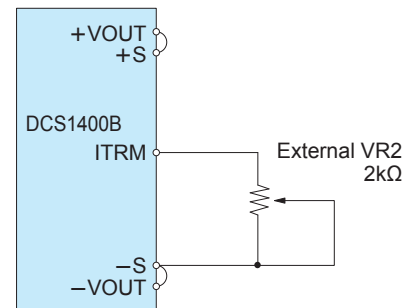

Fig.3.7 Connecting External Devices
(1) Constant current adjustment by potentiometer
■By connecting the external potentiometer (VR2) as shown in Fig.3.7, output current for constant current becomes adjustable.